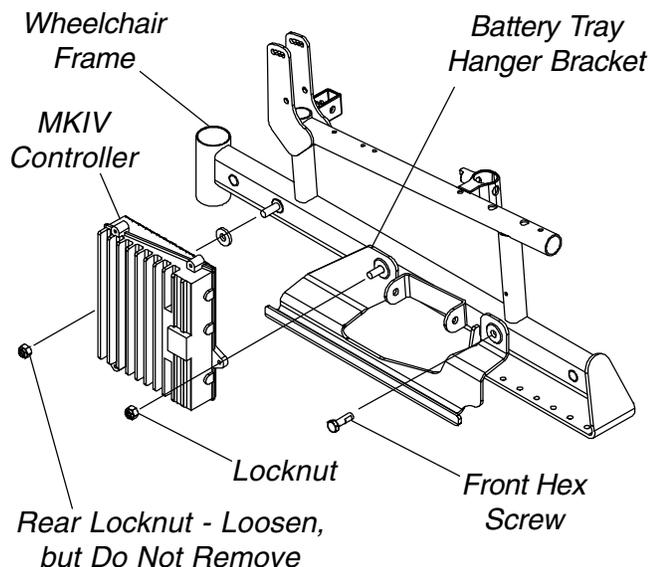

**FIGURE 16 - REPLACING LEFT BATTERY TRAY HANGER BRACKET FOR MODELS R2BASIC AND R2STANDARD**
**Replacing Left Battery Tray Hanger Bracket FOR MODELS R2BASIC AND R2STANDARD (FIGURE 16).**
3. Perform one (1) of the following:
7. Perform one (1) of the following: